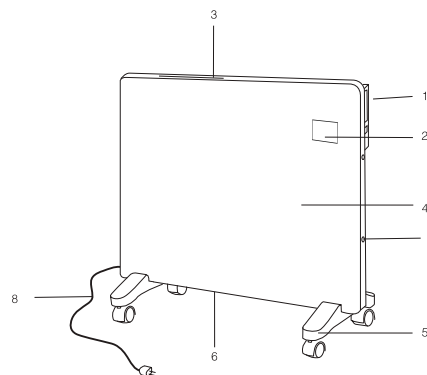

Fig.2
4. DESCRIPTION OF THE CONVECTOR (FIG. 2)